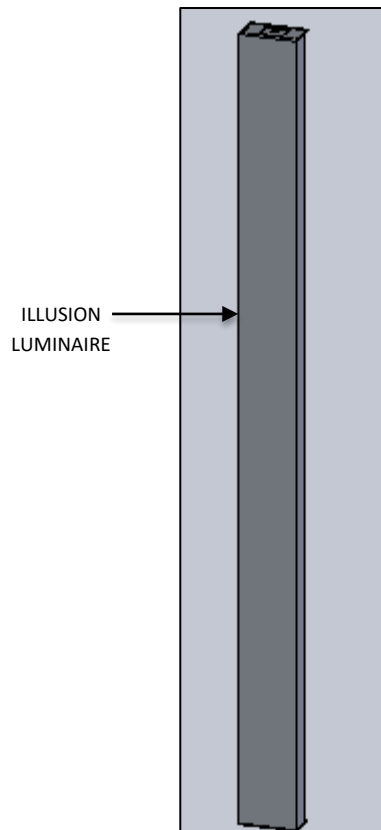

FIG.2 ILLUSION LUMINAIRE (PRE-ASSEMBLED)
1. ILLUSION LUMINAIRE (Pre-assembled as shown in FIG. 2)